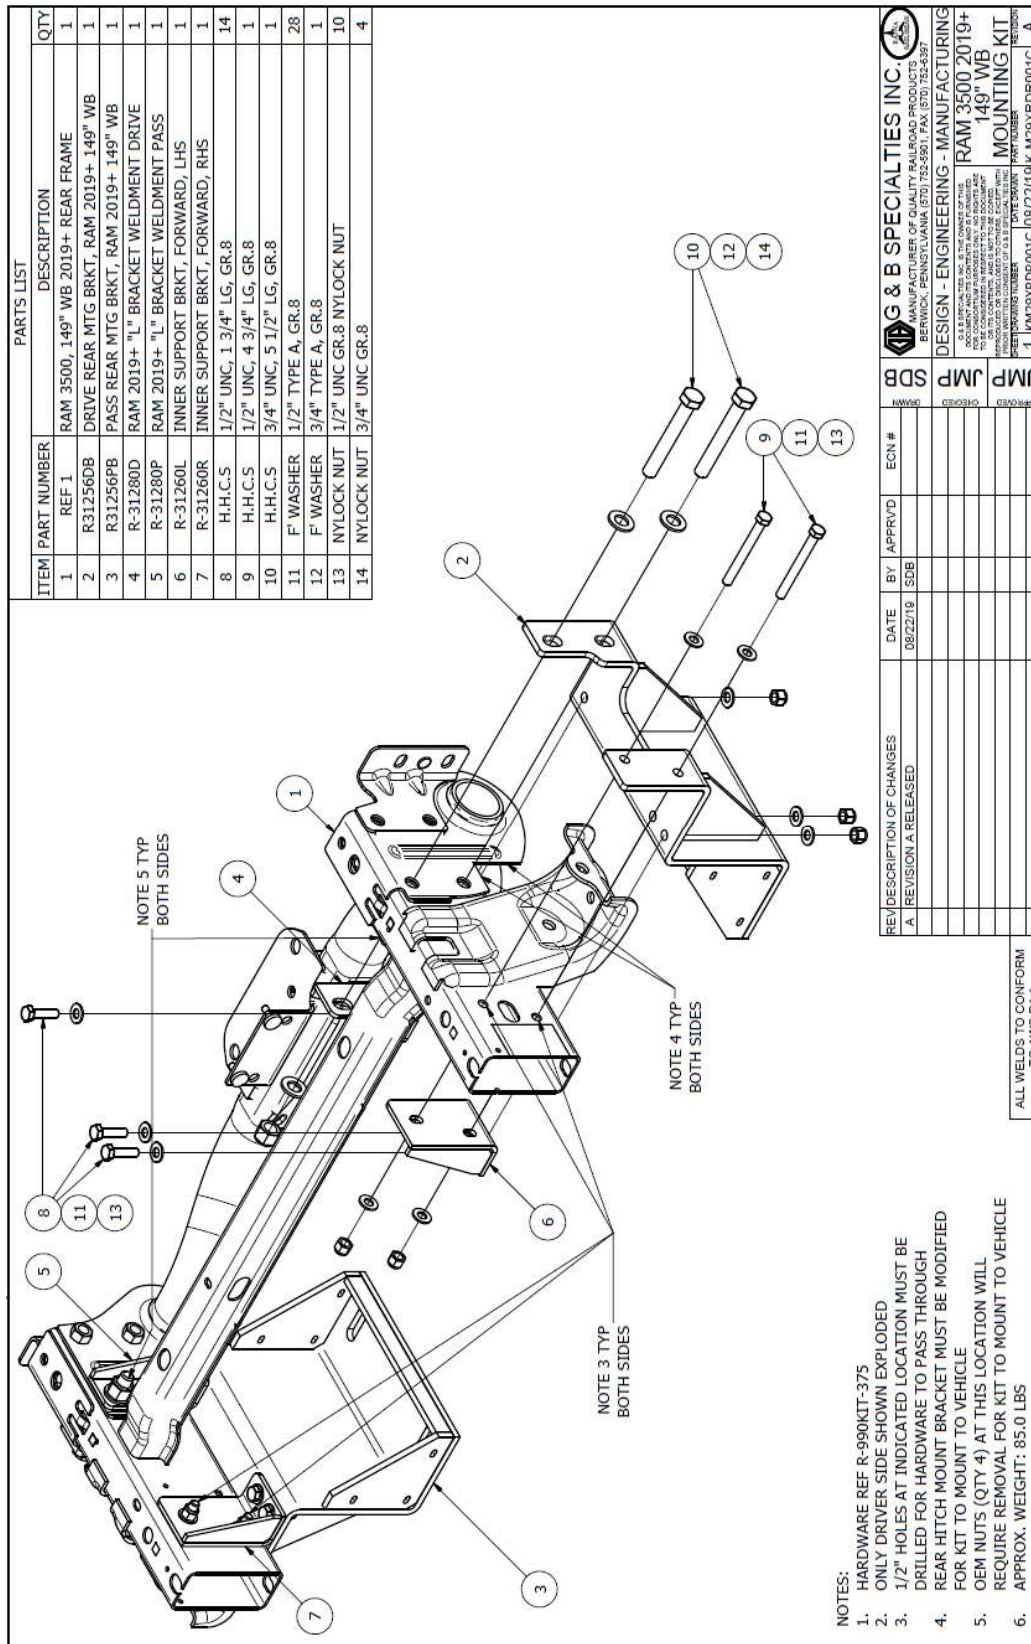

Figure 2 (RAM 3500, 149" Wheelbase)
6. Install the rear mounting bracket as shown using the supplied 3/4" and 1/2" hardware and support bracket as shown. Ensure the mounting bracket is flush with the outside and bottom surface of the frame rail. (Figure 2)
8. Using the holes in the rear mounting bracket as a guide, drill two 17/32" diameter holes thru the inside and outside frame rail. (Figure 2)
9. Complete the installation of the rear mounting bracket using the supplied 1/2" hardware and support bracket. (Figure 2)